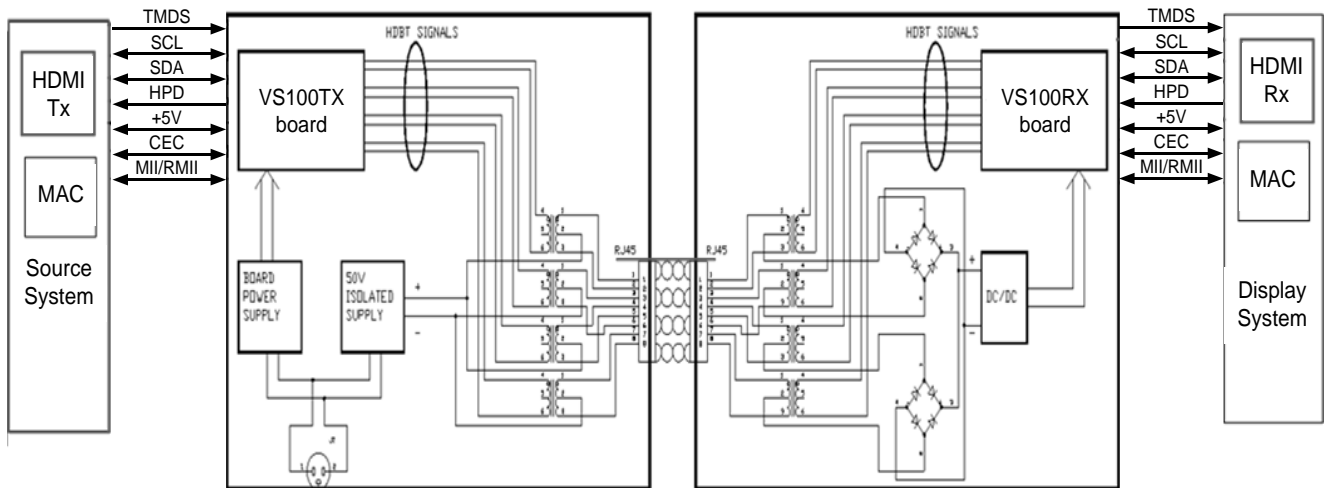

Figure 10: Power Over Cable Transmission from VS100TX to VS100RX
One of the many important features of the VS100 device family and the HDBaseT technology is its ability to transfer power between the VS100 devices in conjunction with video, audio, control, and Ethernet. Figure 10 schematically illustrates the requirements for power transfer from the VS100TX (power sourcing equipment (PSE)) to the VS100RX (powered device (PD)) where the power is converted to the required voltages. The HDBaseT technology also enables power transfer in the opposite direction – from the VS100RX to the VS100TX.